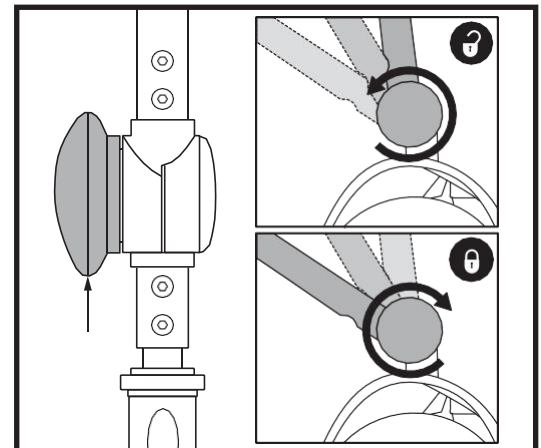

Figure 23. Tiller Adjustment Knob
TILLER ANGLE ADJUSTMENT (See figure 23)
1. With the seat and battery pack removed (see Disassembly Procedures on previous page), lower the tiller and tighten the tiller adjustment knob. See figure 23.
3. Raise the tiller and fully tighten the tiller adjustment knob. See figure 23.